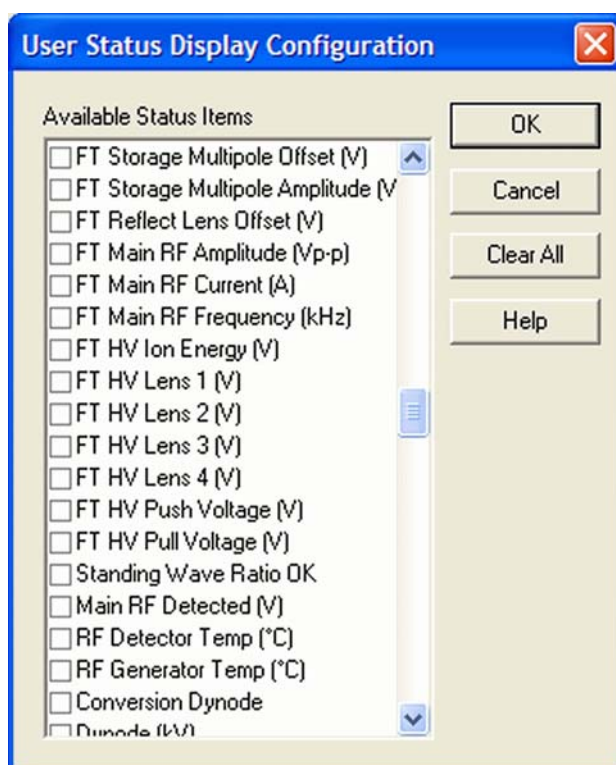

Figure 2-6. User Status Display Configuration dialog box
Figure 2-6 on page 2-7 shows the User Status Display Configuration dialog box.
3. Choose **Configure**. The User Status Display Configuration dialog box is displayed. See Figure 2-6.